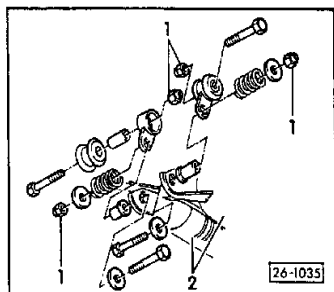

Fig. 3 Suspension of catalytic converter
- Location of parts ⇒ page 26-6 Fig. 3
- Inserting \Rightarrow Fig. 3
◀ Fig. 3 Pressing wheel bearing -A- in until fully home